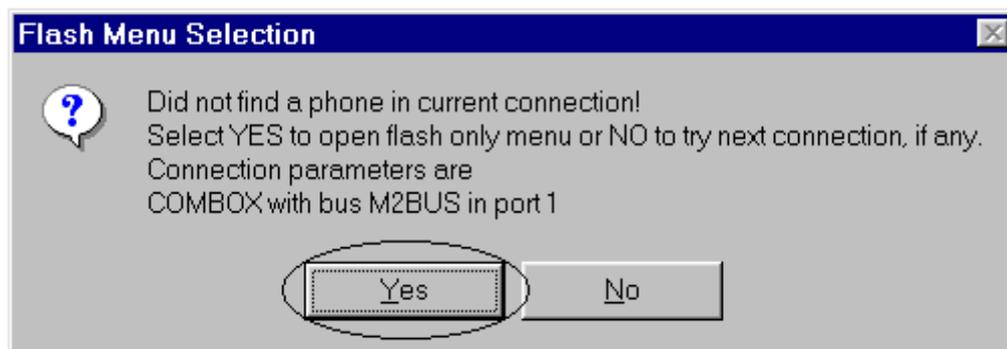

Figure 12. Flash menu selection
2. Use product-> Open-> RAE-3. (Figure 12)